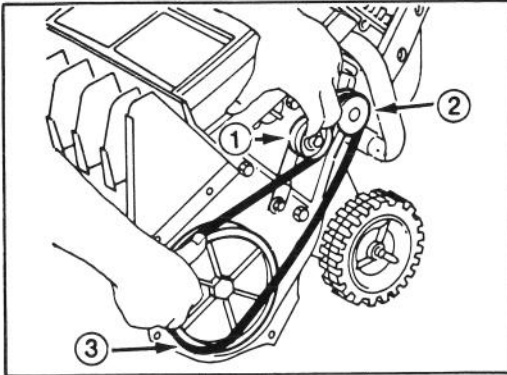

Fig. 10
4. **INSTALLING BELT (Fig. 10)** — Loop belt around engine pulley, under idler pulley and start belt around rotor pulley. Pull idler pulley up and rotate rotor pulley forward until belt fits into pulley.